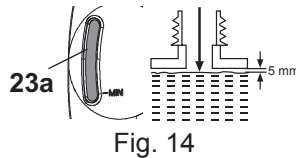

Fig. 14
- Don't fill the oil lower than the "MIN" mark on the oil level window (23a), but also do not overfill or and leave approximately 5 mm of space between the top of the oil and the inside edge of the tank to allow for expansion (Fig. 14).
- Check the oil level window (23a) prior to start-up and regularly during operation. Refill oil when the oil level is close to the bottom of the oil level window (23a) (Fig. 14).
- Wipe up spilled lubricant with a soft cloth and refit the oil tank cap (23).